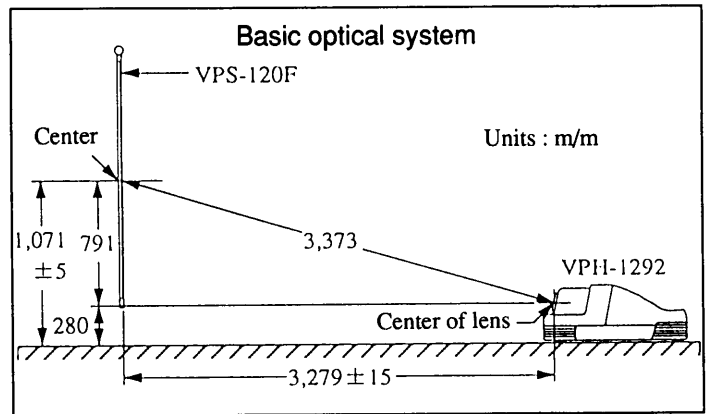

Figure 1-1
1. Place a projector on a work bench which satisfies the projection conditions shown in Figure 1. (Refer to Figures 1-1, 1-2, 1-3.)
(2) Power Supply